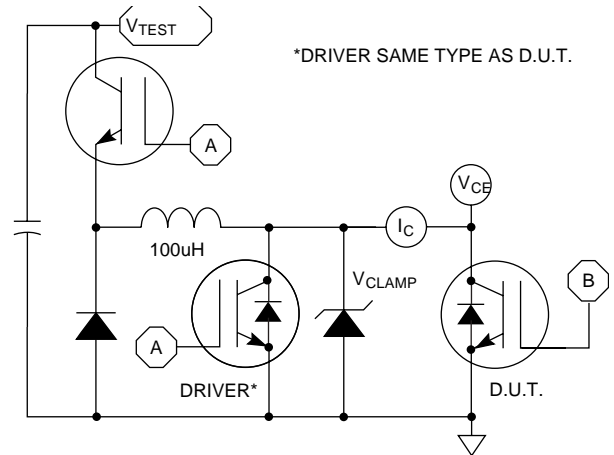

Figure 24.  $E_{ON1}$  Test Circuit
- ① Repetitive Rating: Pulse width limited by maximum junction temperature.
- ② For Combi devices,  $I_{ces}$  includes both IGBT and FRED leakages
- ③ See MIL-STD-750 Method 3471.
- ④  $E_{on1}$  is the clamped inductive turn-on-energy of the IGBT only, without the effect of a commutating diode reverse recovery current adding to the IGBT turn-on loss. (See Figure 24.)